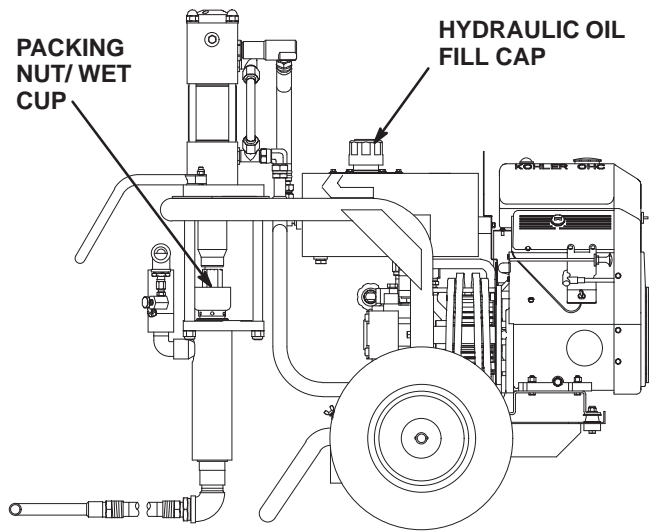

Fig 2 7871A
- Fill the Packing Nut/Wet Cup** 1/3 full with Graco Throat Seal Liquid (TSL), supplied. See Fig. 2.
- a. Unscrew the hydraulic oil fill cap. See Fig 2. The dipstick is attached to the cap. The oil should be up to the full line on the dipstick.